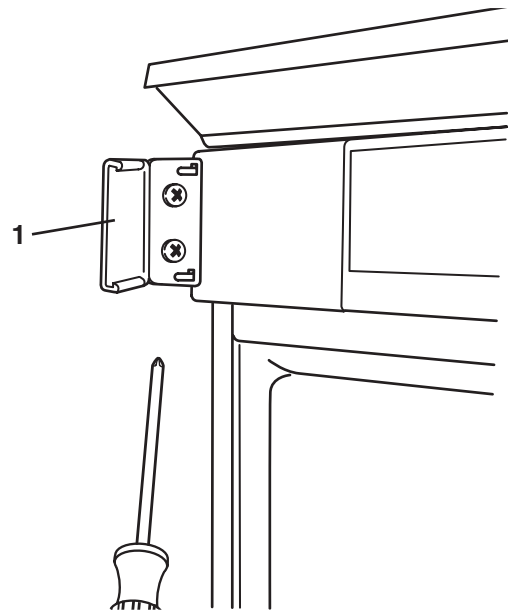

Figure 16
2. Gently pry open the top bracket cover (Fig. 16, 1).